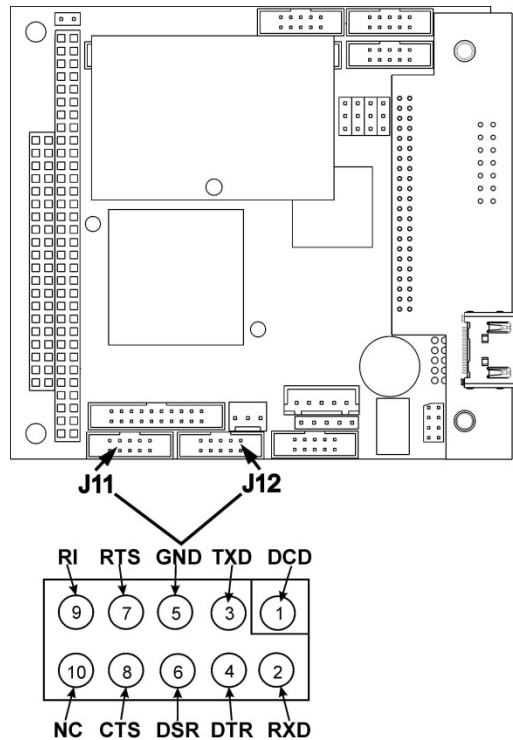

Figure 2-11. Default Pin Assignments for CPU COM Port Connector (RS-232)
The signals from these two connectors are routed from the motherboard via a wiring harness to two 10-pin connectors on the CPU card, J11 and J12 (Figure 2-11).
- On the rear panel of each analyzer, adjust the DCE DTE switch so that the green and the red LEDs (RX and TX) of the COM1 connector (labeled RS232) are both lit. (Ensure you are using the correct RS-232 cables internally wired specifically for RS-232 communication; see Figure 2-11).